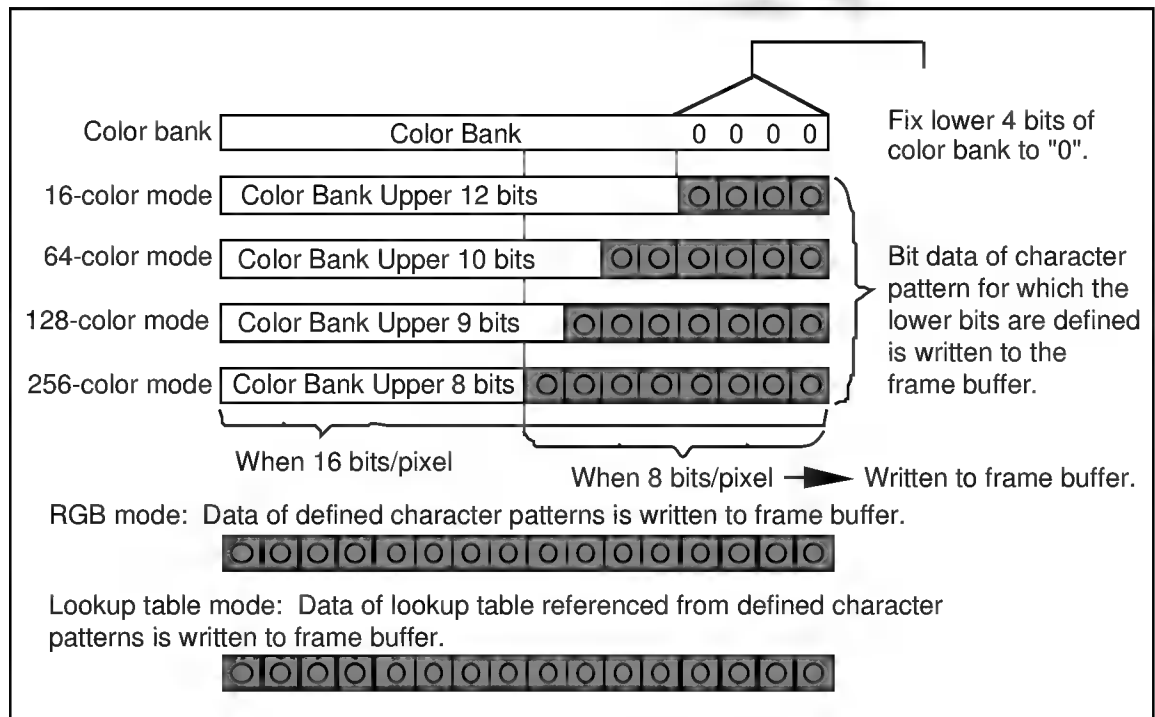

Figure 6.17 Color Bank
- Color bank is specified using 16 bits, but the lower 4 bits must be fixed at "0." Depending on the color mode, 12, 10, 9 or 8 bits are added. Figure 6.17 shows the addition of bits.